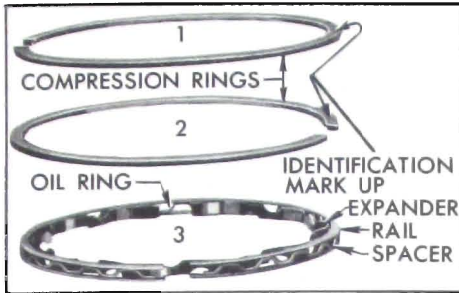

Figure 2-38—Compression and Oil Rings
7. Remove compression rings using Ring Expander KMO-232. Then remove oil ring by removing the two rails, spacer, and expander which are separate pieces in each piston third groove. See Figure 2-38.
7. Install compression rings in first and second lands of each piston. Top rings are assembled with inner bevel toward top of piston and second ring inner bevel toward bottom of piston. See Figure 2-38.